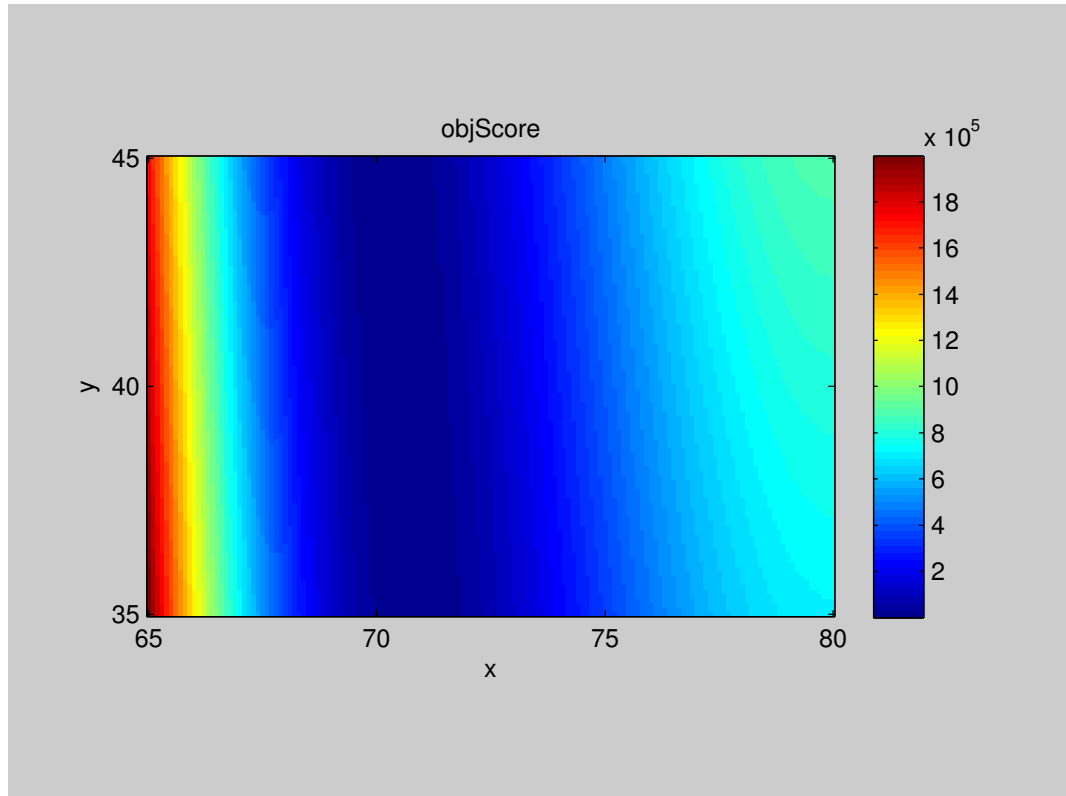

Figure 3.3: Response surface for the shifted Rosenbrock function.
- 23. Use the MATLAB editor to open `./exercises/differential-evolution/respsurf.m`. This script contains a few lines of code to help you get started on your algorithm. Run the script to visualize the response surface for the benchmark function '6' (Shifted Rosenbrock's Function) for $x = [65:0.1:80]$ and $y = [35:0.1:45]$ (Figure 3.3).